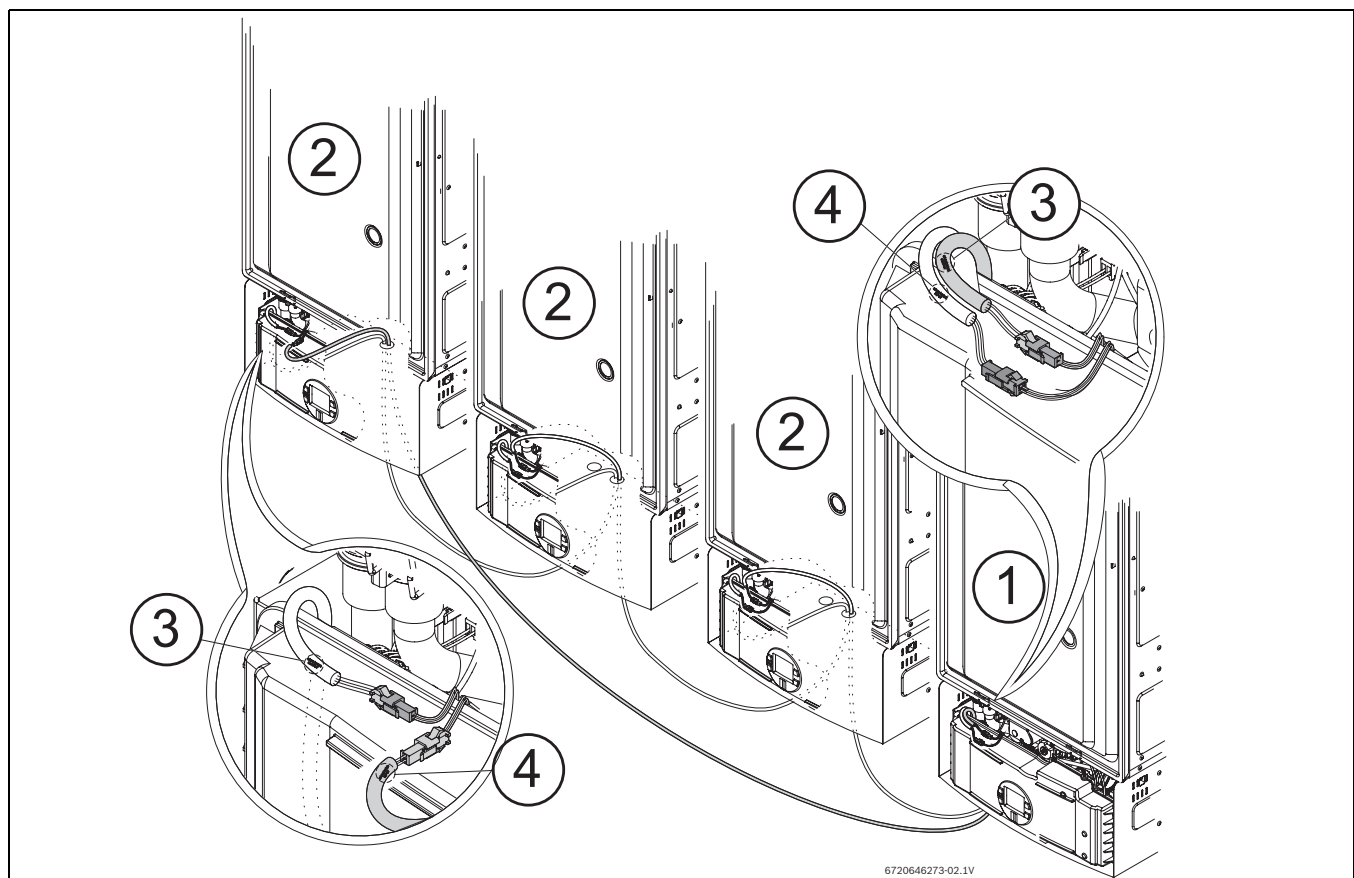

Fig. 51 Example of installation
- ▶ Connect to the 'cascading input' connector of the secondary appliance (→ Fig. 51).